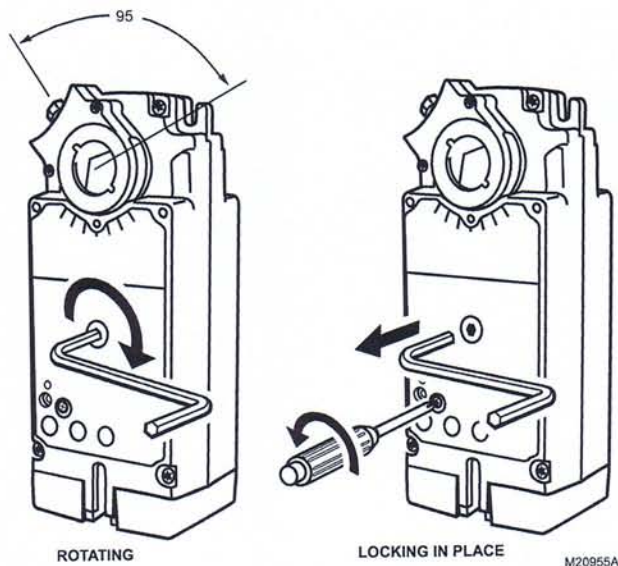

Fig. 6. Manual positioning.
2. Insert supplied hex wrench (key) as shown in Fig. 6.